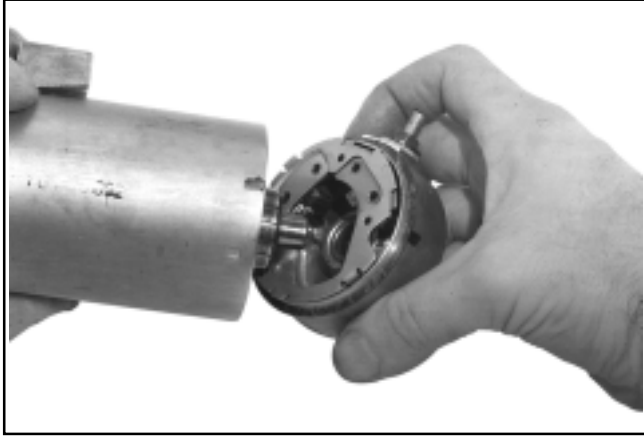

Figure 8-42. Installing End Cap Assembly.
5. Assemble the end cap assembly to the starter, inserting the commutator below the brushes and gently guiding the end of the armature shaft into the bushing within the end cap, against the brush spring tension. See Figure 8-42.